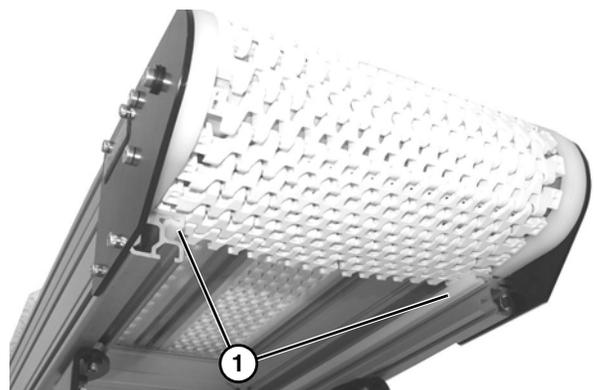

Figure 12
3. Install belt around lower frame section and above lower wear strips (Figure 12, item 1).